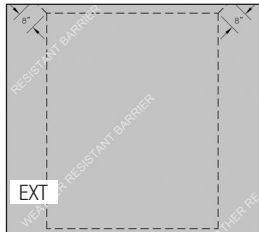

FIG. 3
- F) Cut the weather-resistant barrier (WRB) along the perimeter of the rough opening. Ensure the WRB is cut flush with the sheathing and is not wrapped into the rough opening. (Fig. 3)
- G) From the exterior make two diagonal cuts at the top corners of the WRB to form a flap. (Fig. 3)